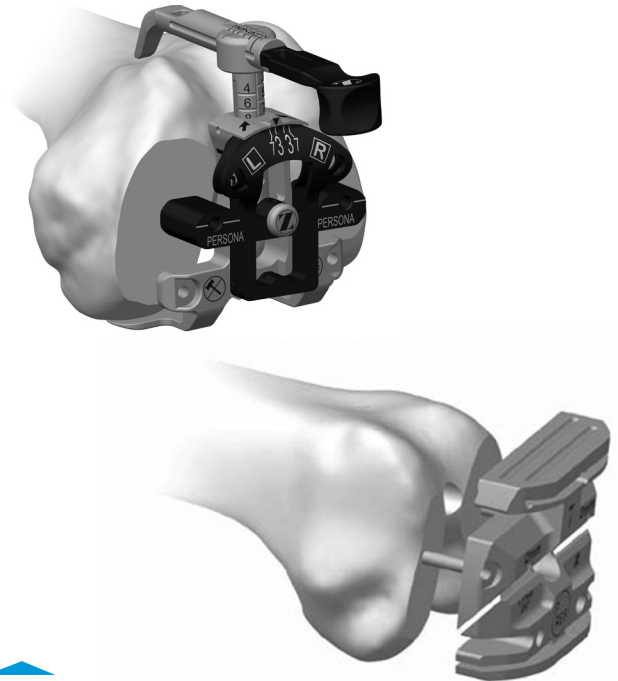

Fig. 51
- Use the *Persona* Posterior Referencing Sizer to size the femur (Fig. 51).
- Insert the *Persona* Posterior Referencing 4-in-1 Cut Guide (Fig. 51).